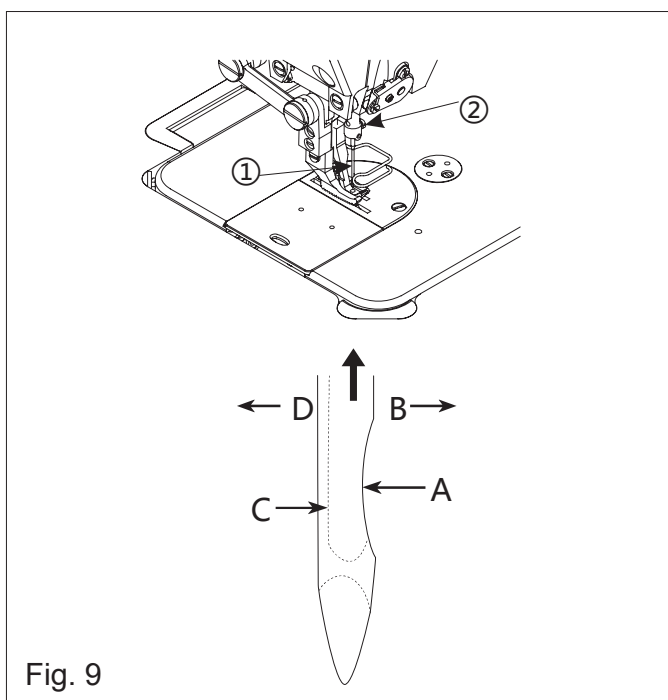

Fig. 9
6. Mounting the Needle (Fig.9)